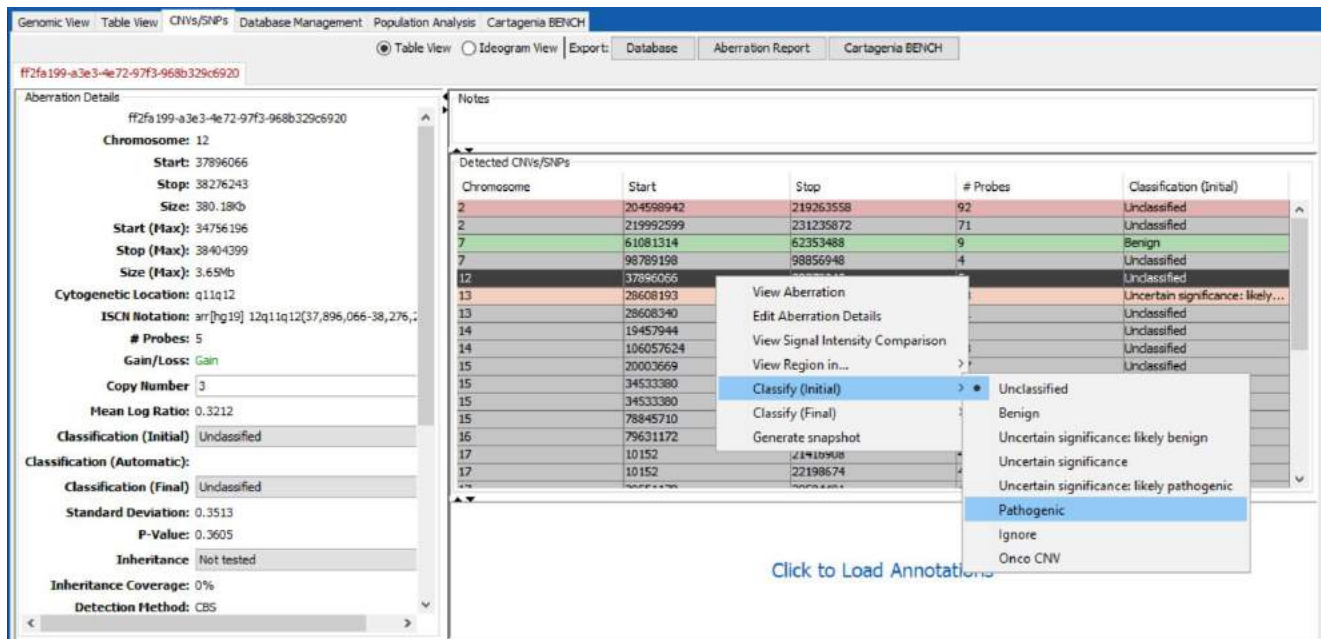

Figure 44: Classification of an aberration from the Detected CNVs/SNPs table.
- a. Right-click on an aberration (or a group of aberrations) in the **Detected CNVs/SNPs** table (left hand side) and select **Classify (Initial/Final)** from the option menu, followed by the classification of choice. An example of this process is shown in Figure 44.